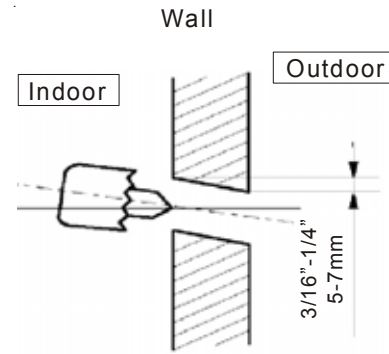

Figure 6
- Drain hose should be installed with a slight downward slope. (See Figure 6.)